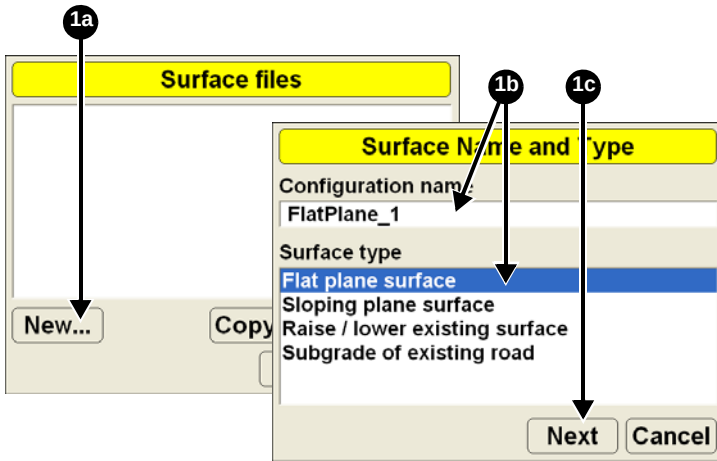

Figure 3-19. Create New Surface File
1. Press **Topcon Logo** ► **File** ► **Surfaces** ► **Working** or **Reference** and press **New**. Enter and select the following information for the new surface file. Press **Next** (Figure 3-19 on page 3-18).